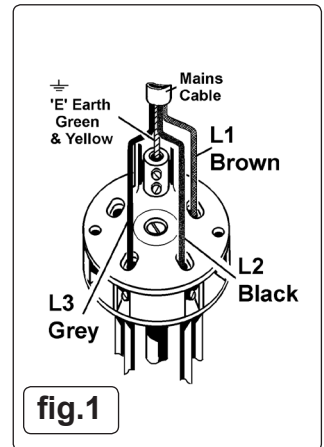

fig.1
- 1.1.10 This product must be fitted with a 3 phase plug wired as illustration in (fig.1), wired to an appropriately fused supply. Connect GREEN/YELLOW wire to Earth 'E'